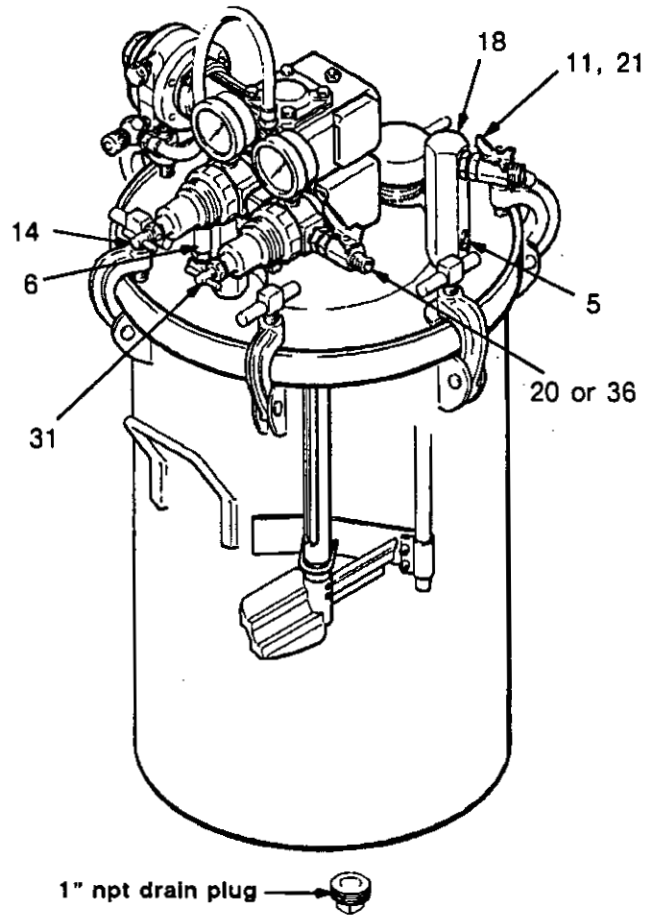

Fig 5
Remove the plug (5) from the outlet manifold (18) and install an additional nipple (11) and ball valve (21) in the manifold. Refer to Fig 5. With dual regulator models, also remove the 1/4 npt ball valve (36) and screw a 1/2 x 1/4 npt(mbe) nipple into the bushing (30) and then a 1/4 npt(f) tee. Install a 1/4 npt ball valve (36) on both outlets of the tee.
There is a 1 in. npt drain port (see Fig 5) in the bottom of the tank that may be fitted with an elbow, nipple, fluid regulator, hose and spray gun for use when top outlet feed is not desirable or possible. Mount the tank on a dolly when using this port. See ACCESSORIES for a dolly.
Close the air regulators (14 and 31 if used) by turning the knob(s) *counterclockwise* and turn on the air supply. See Fig 5. Start and adjust the agitator (if it is used) as explained in the separate instruction manual 307-792.
Open the tank air inlet valve (20 or 36) and the fluid outlet ball valve (21) and adjust the air regulator to the approximate pressure desired. See Fig 5.
Do not switch the positions of the tank air regulator (14) and the atomizing air regulator (31). See Fig 5. The tank air regulator has a Mylar® diaphragm which resists corrosion by paint and solvents. If the tank air regulator is replaced, be sure it has a Mylar diaphragm.